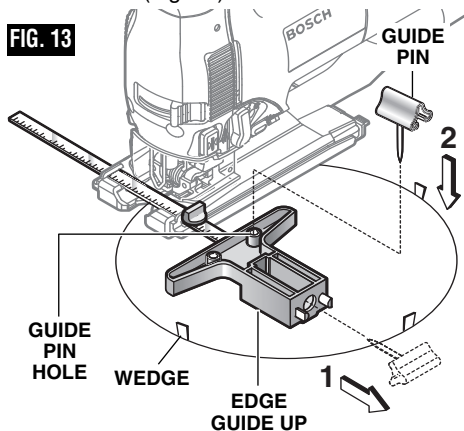

FIG. 13
3. Attach guide to saw with edge guide facing UP as shown (Fig. 13).
Cutting Tip: Cut slowly so the blade will stay straight in the cut. Place small wedges in the cut as shown in Fig. 13, to keep the inner circle from spreading when near the end of the cut.